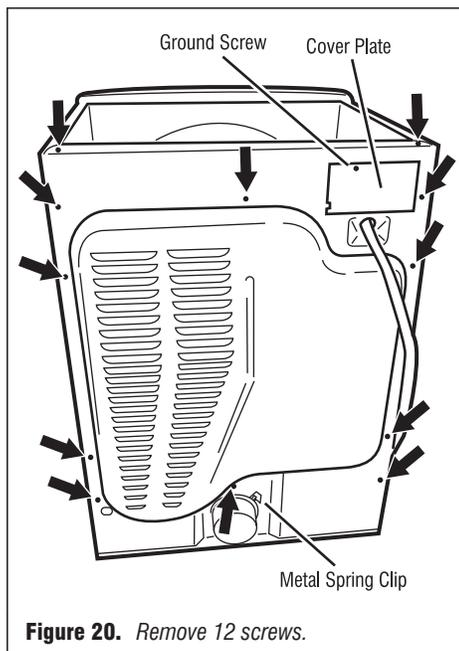

Figure 20. Remove 12 screws.
4. Remove the metal spring clip between the back panel and the exhaust outlet. See figure 20.
5. Remove the ten screws on the rear, and two screws on the top of the back panel. Pull the back panel off the machine. See figure 20.